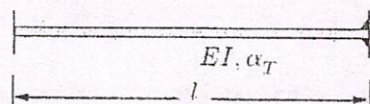

Figure 6
Q.7 A stress free bar, supported as shown Figure 6 is uniformly heated. Determine the increase  $\Delta T$  in temperature at which the bar buckles.